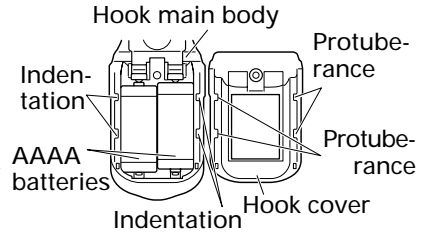

Fig. 12
(2) Remove the old batteries and insert the new batteries. Align with the hook indications and position the plus (+) and minus (-) terminals correctly. (Fig. 12)
(3) Align the indentation in the hook main body with the protuberance of the hook cover, press the hook cover in the direction opposite to that of the arrow